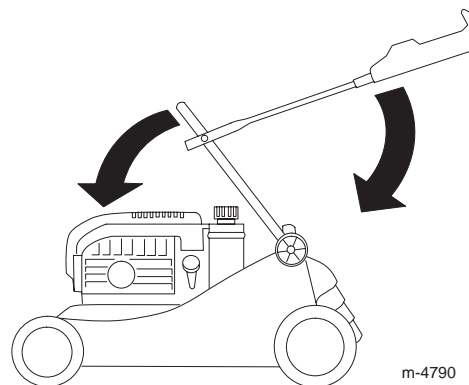

Figure 32
3. Carefully swing the lower handle section forward until it rests on the engine (Fig. 32).
4. Carefully swing the upper handle section rearward until it rests flat (Fig. 32).